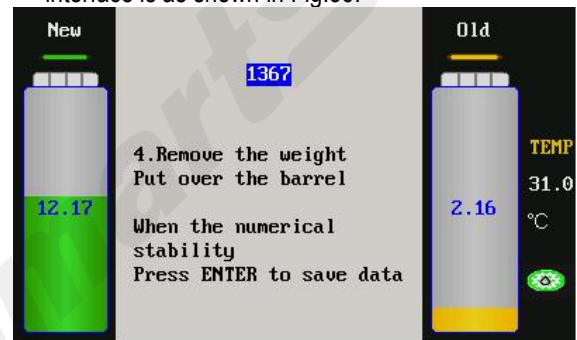

Fig.36
- 6) When the value displayed on the interface is stable, please press OK key again to save the data. The interface is as shown in Fig.36.